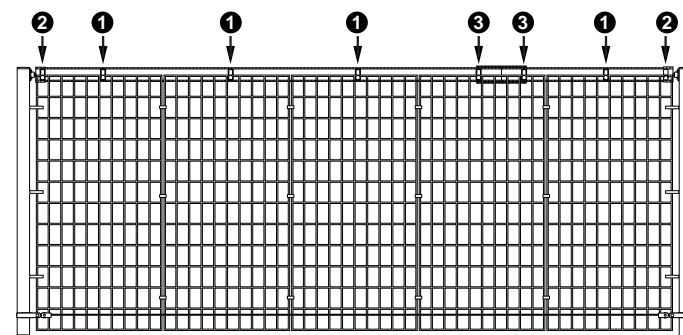

Fig. 18 Fence Panel Installation
- Fasten fence panel to each line post with panel-to-post clips using self-tapping screws. (Fig. 18)